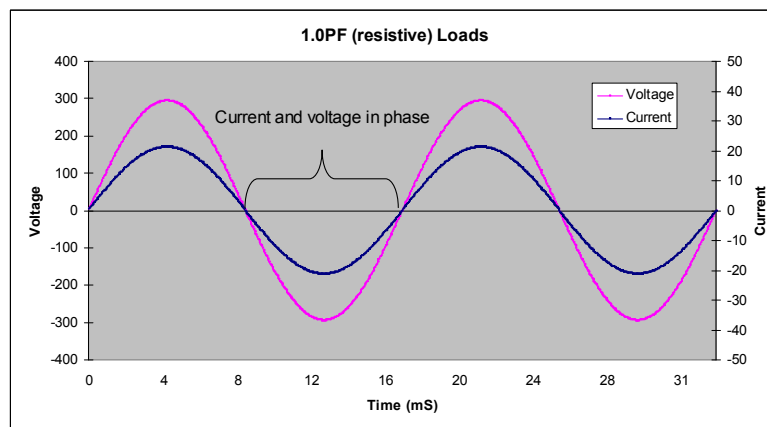

Figure 3. Power factor of 1.0, unity (60 Hz waveforms)
- Circuits containing only resistive elements (such as filament lamps and cooking stoves) have a power factor of 1.0, or unity (Figure 3). This is the highest power factor that can be attained. Every incoming volt-ampere is available as useful wattage.